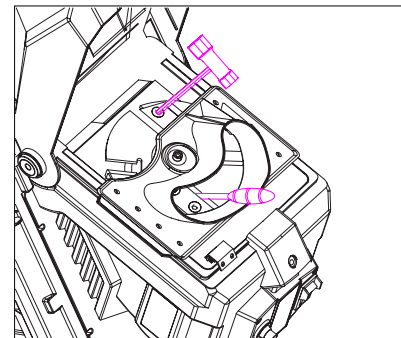

Fig. 10
4. Wearing protective gloves, use a screwdriver (not supplied) to hold the blade plate, then use the hexagonal end of the socket wrench supplied to loosen and remove the first hexagon socket head screw (Fig. 10).